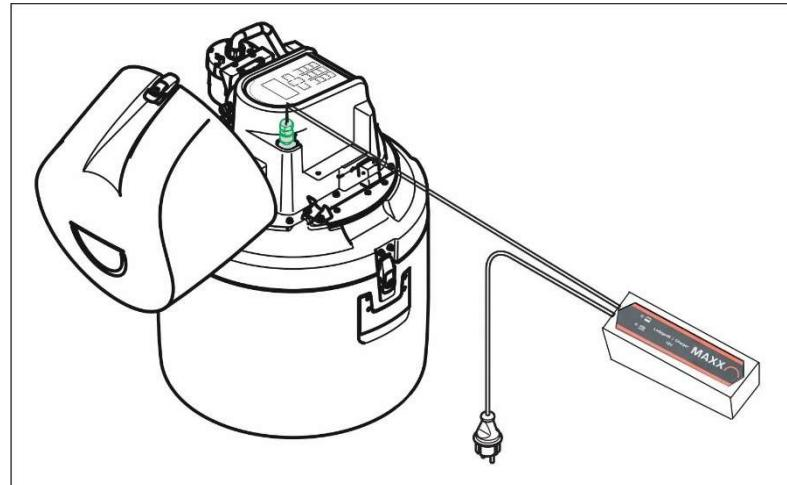

Figure 13 Connect the power supply directly
The power supply has to be plugged into the device directly (Figure 13). When ready for operation, the LED (1) lights up green.